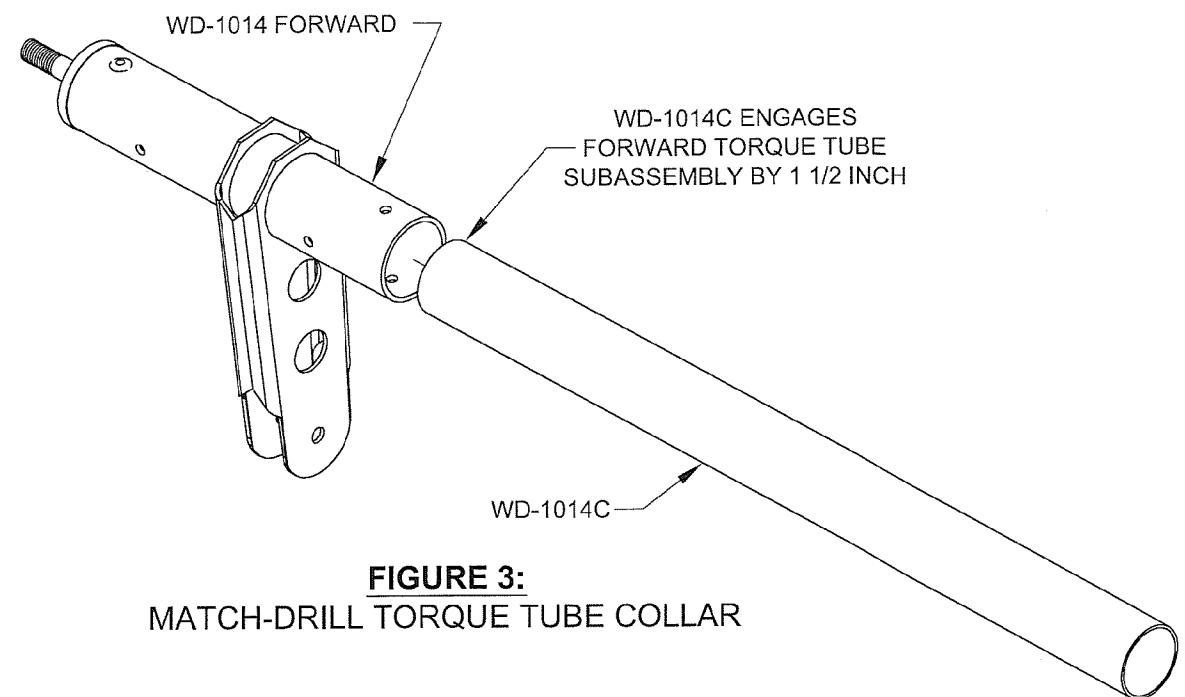
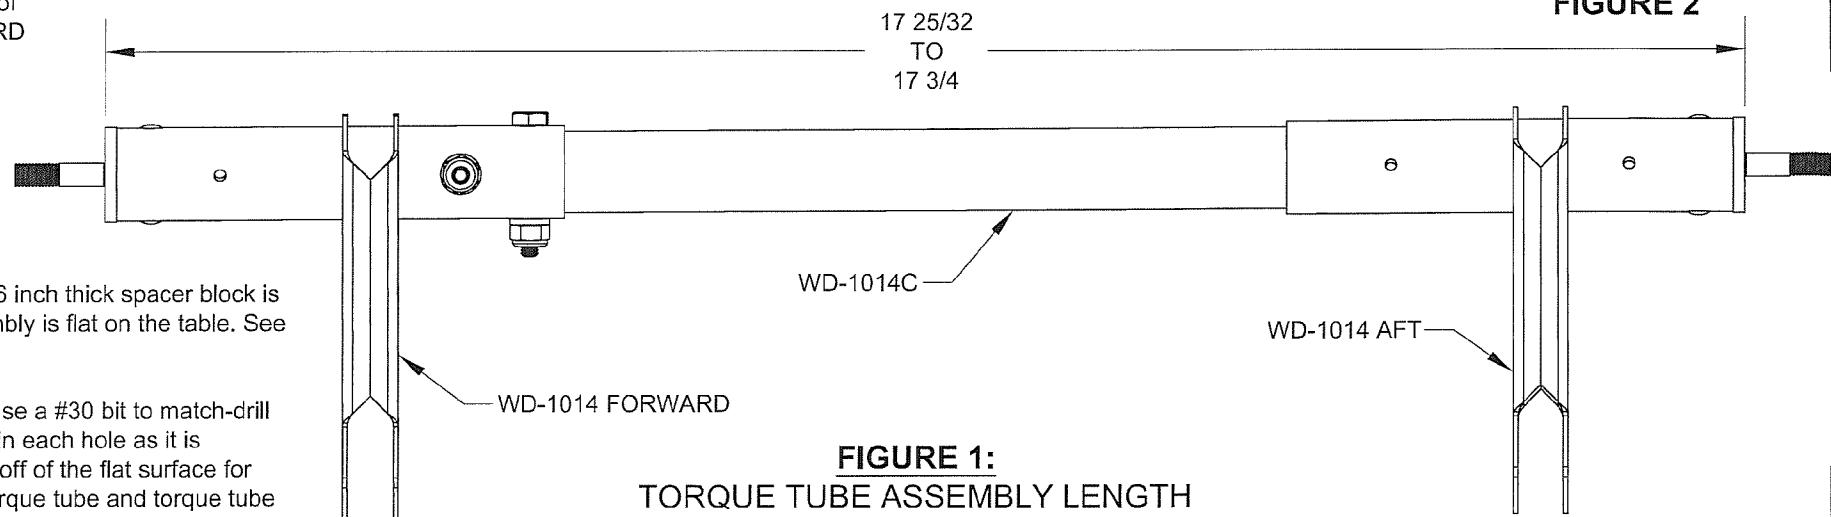

FIGURE 3:
FIGURE 1:
Step 3: Insert WD-1014C Torque Tube Collars in the open ends of the WD-1014 FORWARD Forward Torque Tube Subassemblies as shown in Figure 3.
Using a #30 bit, match-drill the torque tube collar using the holes in the forward torque tube subassemblies as drill guides. See Figure 3. Install a cleco in each hole as it is match-drilled. Using a #12 bit, final-drill through both sides of the forward torque tube subassembly and torque tube collar. Install a bolt, washer, and nut as shown in Figure 4 to hold alignment while the other bolt hole is final-drilled #12.
Place the torque tube assembly on a flat surface as shown in Figure 3.
Step 2: When assured that both the engagement and clocking of the torque tube assembly is correct, use a #30 bit to match-drill the torque tube collar using the holes in the aft torque tube subassembly as drill guides. Install a cleco in each hole as it is match-drilled. After the first hole is match-drilled and clecoed, the torque tube assembly can be moved off of the flat surface for drilling the remaining holes. See Figures 3 and 4. Using a #12 bit, final-drill through both sides of the torque tube and torque tube collar. Install a bolt, washer, and nut as shown in Page 23-7, Figure 1 to hold alignment while the other bolt hole is final drilled #12.
Step 3: Create the right side torque tube assembly by inserting the aft end of the remaining WD-1014C Torque Tube Collar into the open end of the remaining WD-1014 AFT Aft Torque Tube Subassembly as shown in Figure 1.
Adjust the engagement of the torque tube collar and the aft torque tube subassembly such that the overall length is as shown in Figure 1.